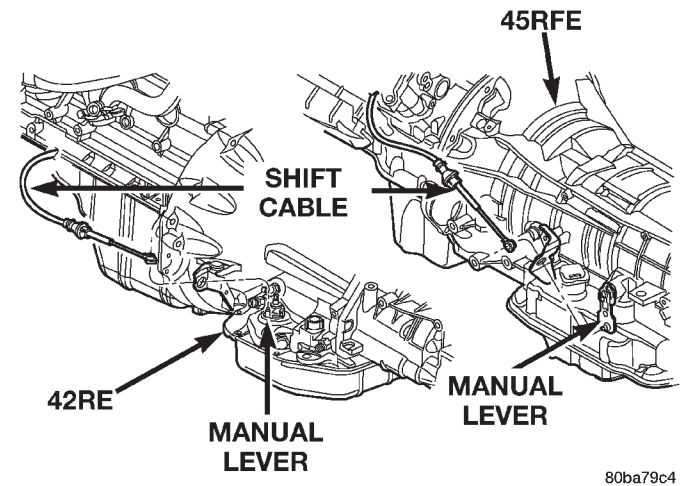

Fig. 25 Remove Shift Cable From Transmission
- (1) Shift transmission into Park.
- (2) Raise vehicle.
- (3) Remove the shift cable eyelet from the transmission manual shift lever (Fig. 25).
- (4) Remove shift cable from the cable support bracket.
- (5) Lower vehicle.